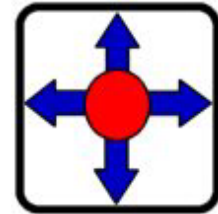

Figure 1
12. Select the Pinpointer (Ultra Sound) Button – see Figure 1, push only once.